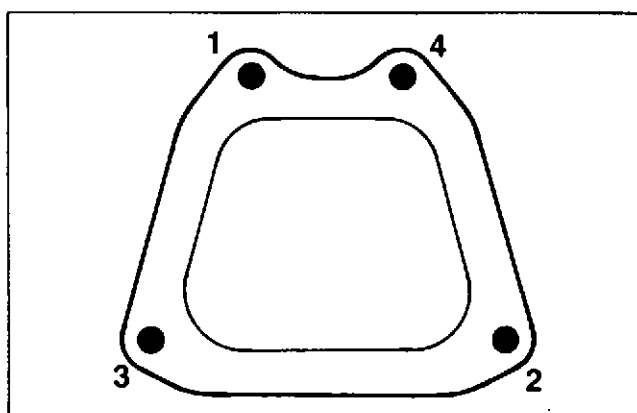

Figure 11-23. Valve Cover Fastener Tightening Sequence.
7. Install the valve cover. Torque the hex flange screws to **3.4 N·m (30 in. lb.)** using the sequence shown in Figure 11-23.